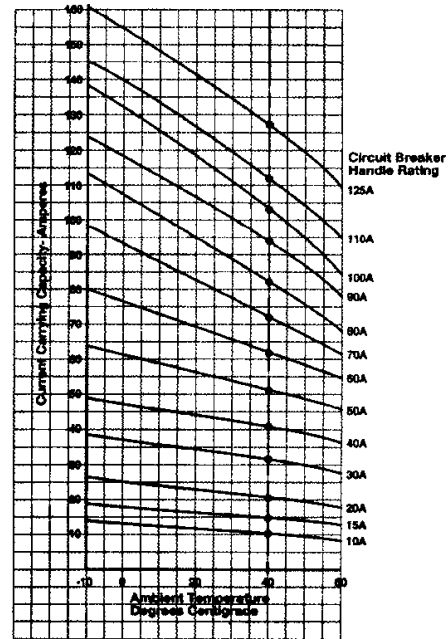

Figure 5
1. Refer to the ambient derating curve, Figure 5.
For example, Figure 5 shows the ambient derating curves for QOU miniature circuit breakers. Determine the continuous current carrying capacity of an 80A circuit breaker applied at 50°C by finding 50 on the horizontal axis and reading up to the 80A curve and over to the vertical axis on the left-hand side. The circuit breaker is derated to carry 75A when applied at 50°C. If the circuit breaker is used on a continuous load (three hours or more), Paragraph 220-3(a) of the NEC requires that loading not exceed 80% of the rating (75A x .80 = 60A).